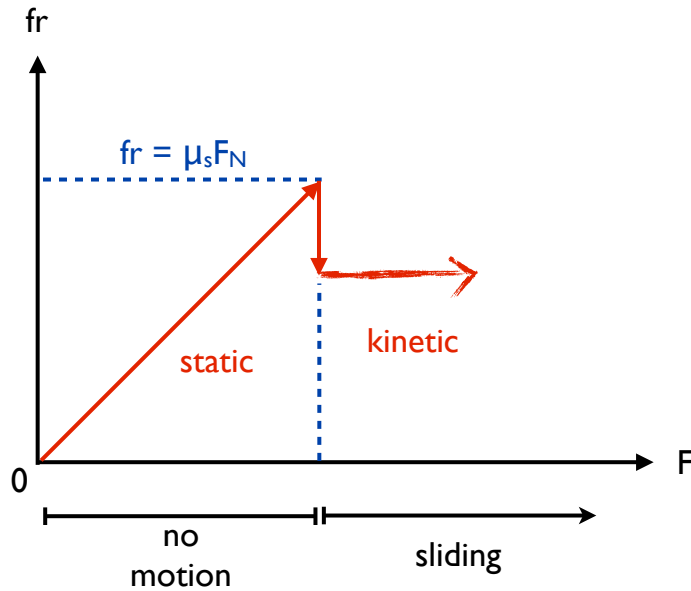

Figure 1: Force of friction ( $f_r$ ) as a function of an external force  $F$  applied to an object that is initially at rest.
Since the objects are at rest with one another, more molecular bonds are able to form making the object harder to move and so greater force is needed to start motion when compared to the kinetic friction case. Therefore  $\mu_s$  is generally greater than  $\mu_k$ . Graphically, this is shown in Figure 1: As you increase the force, the static friction force increases linearly until the applied force  $F$  equals  $\mu_s F_N$ . After this point the object "breaks away" and the friction force falls to the kinetic friction value.
- With the force sensor setup and attached to the cart, slowly and carefully pull on the cart as it rests on of the surfaces while monitoring the force value with the graph. You want to record the minimum force needed for the cart to break away and start moving. Your graph should look similar to Figure 1 (note: depending on the force sensor setup, your graph might be upside down!). Have every member of the lab group try this. Repeat this procedure for all the friction carts (felt, plastic, cork) using at least 5 different masses for each cart.